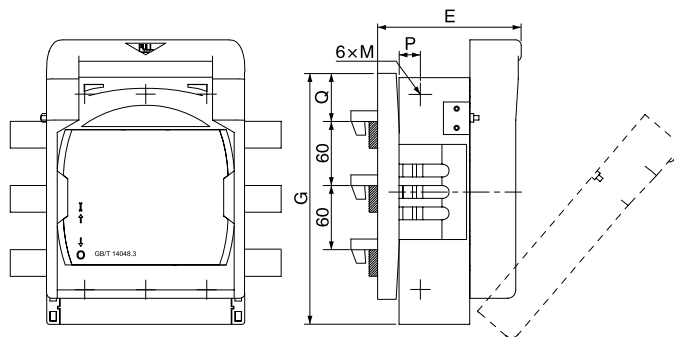

Fig. 2 HR17N/D series busbar type installation and outline dimensions drawing
6.2 Installation and outline dimensions for busbar type see Table 3 and Fig. 2